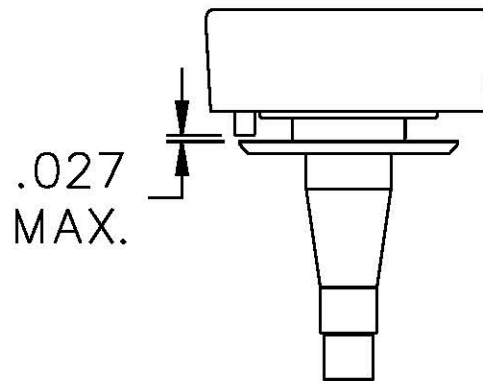

Figure 7 - ABS Sensor & Tone Ring Gap
8. Check physical gap between the sensor and tone ring (**Figure 7**). The Brake Caliper must be removed to inspect gap. The maximum allowable gap is .027 inch. If the gap is greater than .027 inch, press on the wire lead end of the sensor and push the sensor into contact with the tone ring. Check that the ABS spring retainer and bushing are not unseated. Re-seat components as needed.